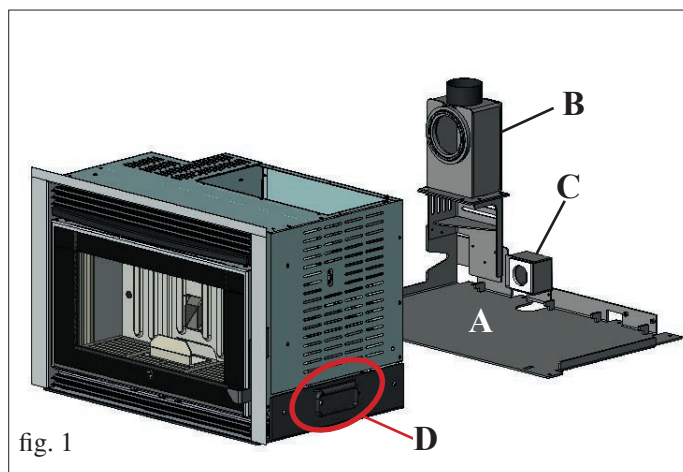

fig. 1
- After evaluating the proper position of the insert, lift it using the two handles on the sides of the insert (D – Fig. 1), from the base plate (A – Fig. 1).